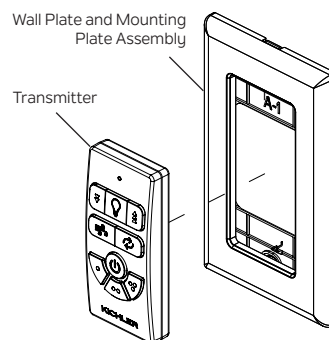

Fig. 4
Step 1. Remove the transmitter from the wall plate and mounting plate assembly. (Fig. 4)